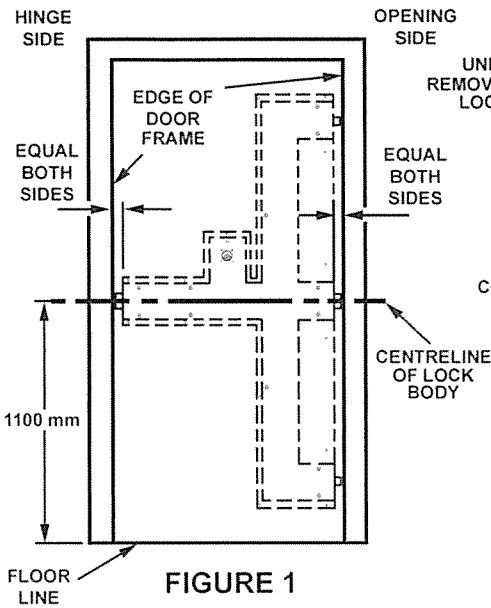

FIGURE 1
1. Mark centreline of Lock across inside of door at desired height (nominally 1000mm from floor to centreline of Handle). (Fig. 1)
3. Position Lock onto door at pre-determined height & such that the clearance between Lock Body & edge of door is approximately 5-10 mm at opening side & 20-25mm at hinge side. (Fig. 1 & 2) Fix Lock to door using only three self-tapping screws.
3. Position Lock onto door at pre-determined height & such that the clearance between Lock Body & door jamb is equal on both sides. (Fig. 1) Fix Lock to door using only three self-tapping screws.